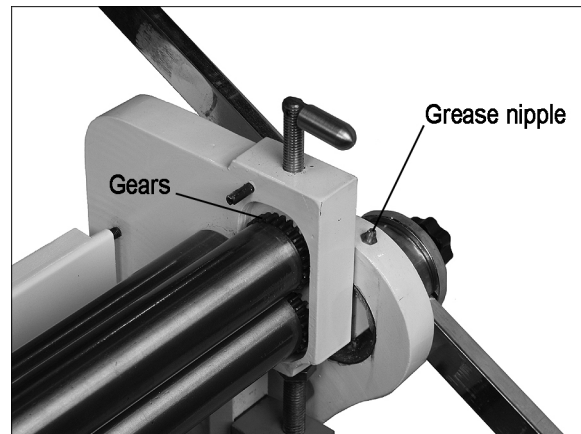

Figure 17
1. Apply #2 lithium tube grease once a month to the grease nipples on both ends of the frame (Figure 17).
3. Lightly brush a multi-purpose grease onto the gears at the end of the rollers (Figure 17). Turn the operating handle to distribute the grease.